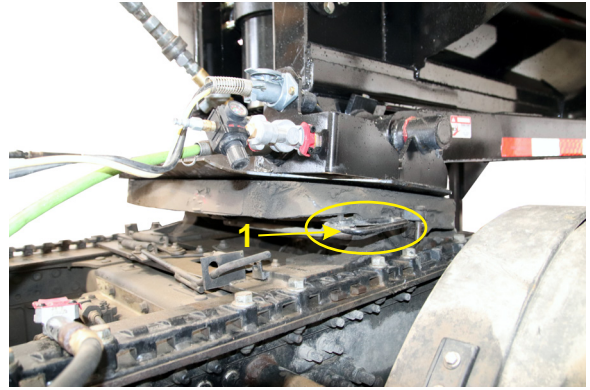

Figure 3-30 – Tractor Fifth Wheel
- e. Check to make sure the fifth wheel king pin latch (1, Figure 3-30) has been fully locked.